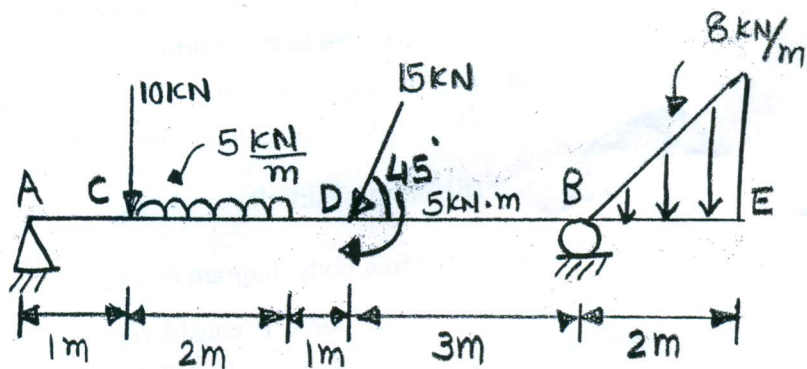

Fig. 4
(B) Determine support reactions for a beam shown in Fig.4. 05